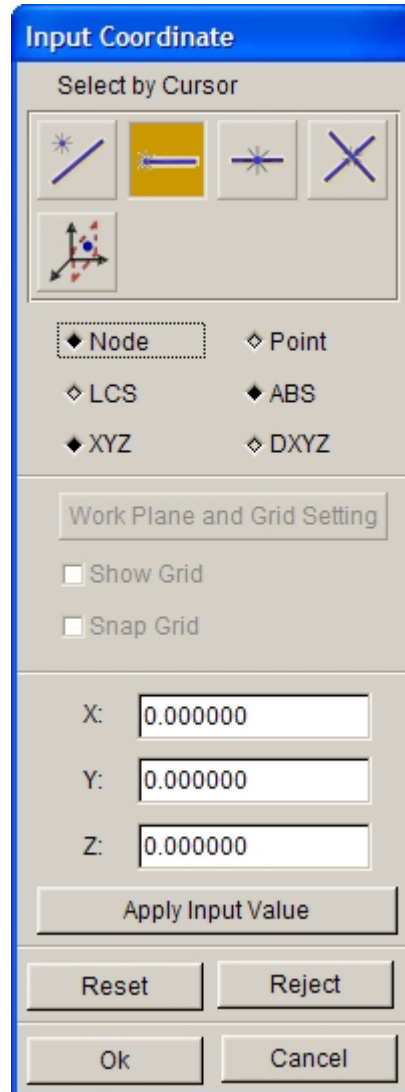

Figure 6.2.9 INPUT COORDINATE dialog box for selecting origin of the LCS
4. The user can also create a LCS which U, V and W axes are parallel to the X, Y, Z of global coordinate system. Click on the CREATE button to display a dialog box as illustrated in Figure 6.2.9 to define the LCS. Select a point as the origin and click on the OK button to create the LCS. Click on the SELECT button to display the SELECT LCS dialog box, following by clicking on the C.S.ID button to select the appropriate identification number of the LCS.